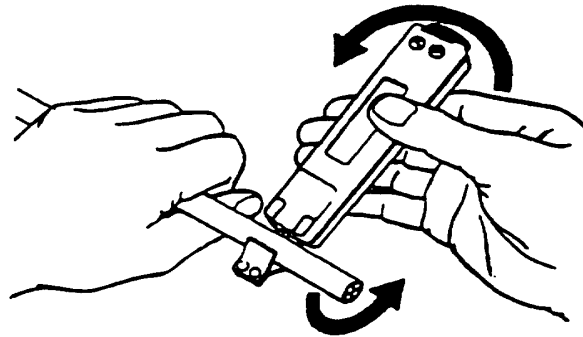

Figure 11. Swivel Blade Stripper Tool, Circular Cut
d. Rotate tool around cable jacket to complete circular cut (see Figure 11). If cut is not complete readjust blade depth and repeat the procedure.